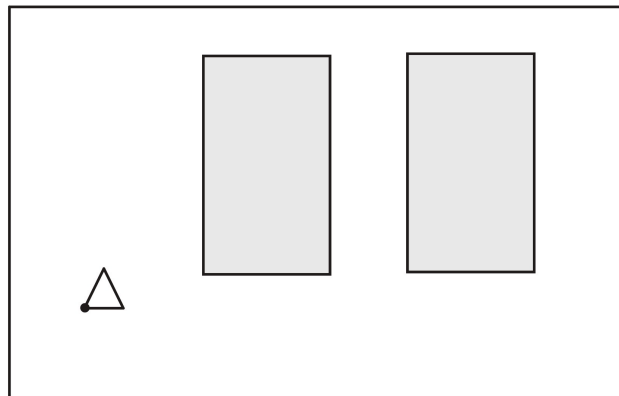

Figure 3: Triangle robot exploring a fixed environment
2. Draw the configuration space for the triangular robot in Fig. 3. The robot is only capable of *translational* movement. Also take note of the reference point (bottom left of the triangle)! Treat the environment boundary as an obstacle. [4 points]